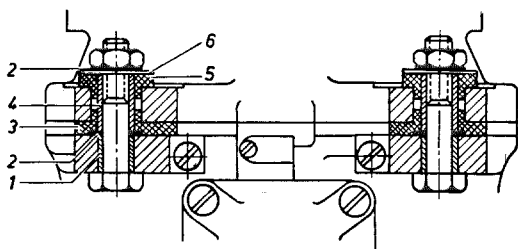

Fig. 01-4/9
13. Check the rubber flanges (3) and the rubber washers (5) between carburetor and intake pipe to see if they are fit for re-use and, if necessary, replace them (Fig. 01-4/9).
Do not forget the spring washers (2) between carburetor flange and rubber flange (Fig. 01-4/9).